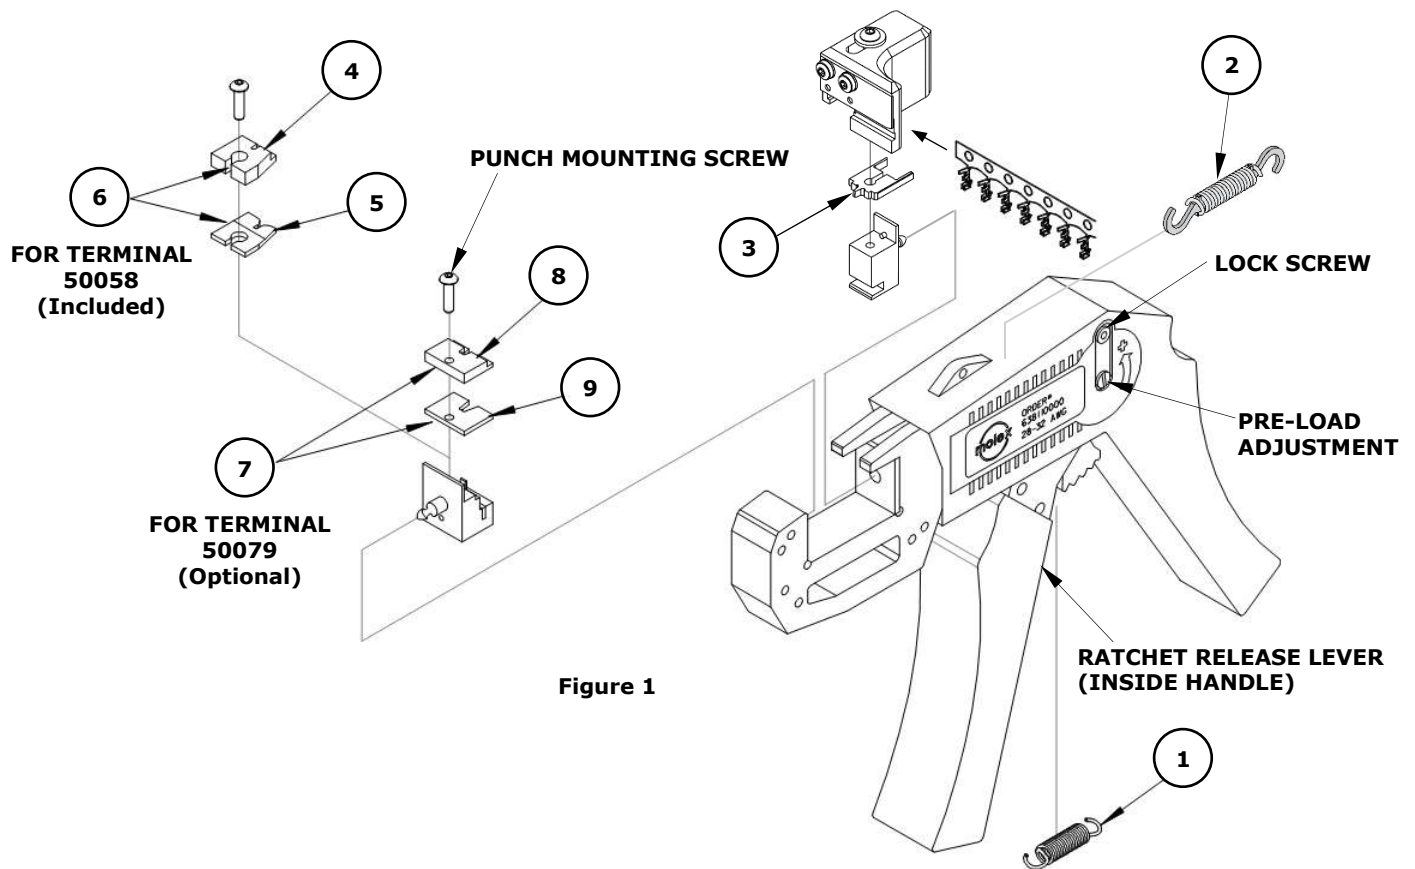

Figure 1
Note: The 50079 terminal series requires an optional tool kit (not included with this hand crimp tool). See parts list and Figure 1 for tool kit information.
This tool has an anti-backup ratchet to assure full cycles. Should this tool ever become stuck or jammed in a partially closed position, **do not force the handles open or closed**. The tool will open easily by pushing the ratchet release lever. See Figure 1.
1. Using a T8 Torx driver, remove the punch mounting screw. See Figure 1.
2. Note the current setting of the preload adjustment. See Figure 1.
4. Use a T8 Torx driver to remove the preload lock screw. See Figure 1.